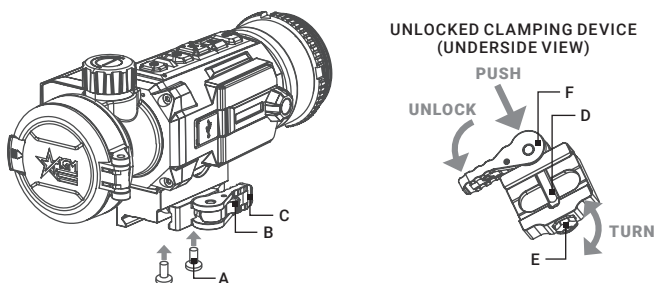

FIGURE 2-8. MOUNT
A Picatinny/Weaver mount is secured to the Secutor LRF-C with two screws (Fig. 2-8, A). The recommended tightening torque for the fixing screws is 4-5.3 Nm (5.44-7.2 ft lb).
1. Unlock the clamping device of the clip-on mount by pushing down on the lever holder (Fig. 2-8, B) and unlocking the lever (C).
2. Install the clip-on on the Picatinny/ Weaver rail so that the stop (D) slides into the transverse slot on the rail.
3. Affix the clip-on to the rail by locking the lever (C).
2. With the clamping device unlocked (as shown in Figure 2-8), push the cam (F) towards the arrow, which will cause the nut (E) to slide out of its hole.
3. To tighten/ loosen the clamping device, push down on the cam (F) and turn the nut (E) CW/ CCW respectively, in one-two increments (see note below). Much like when the cam (F) is released, backward-moving spring will cause the nut (E) to slide back into its hole.